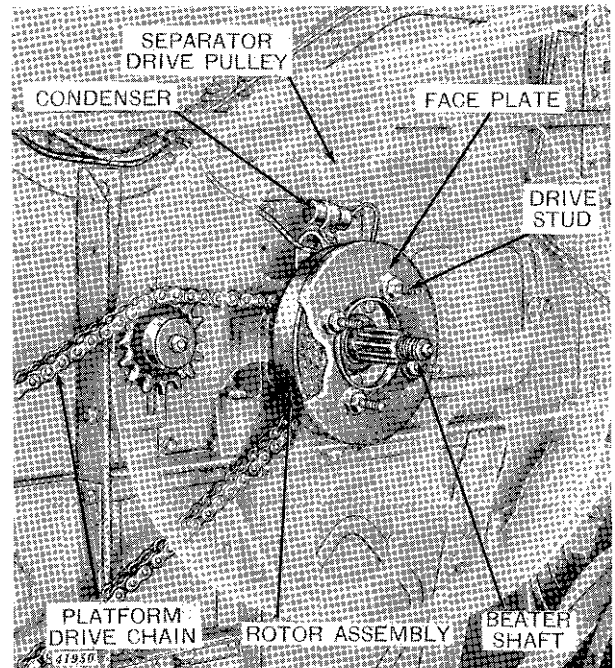

Figure 10-5-9—Electro-Magnetic Platform Throw-Out Clutch
**Platform Throw-Out Clutch.** The electro-magnetic platform throw-out clutch permits instant disengagement of the entire platform drive should a rock or similar object enter the platform or feeder house (Figure 10-5-9). It also aids in the feeding of heavy slugs to the cylinder.